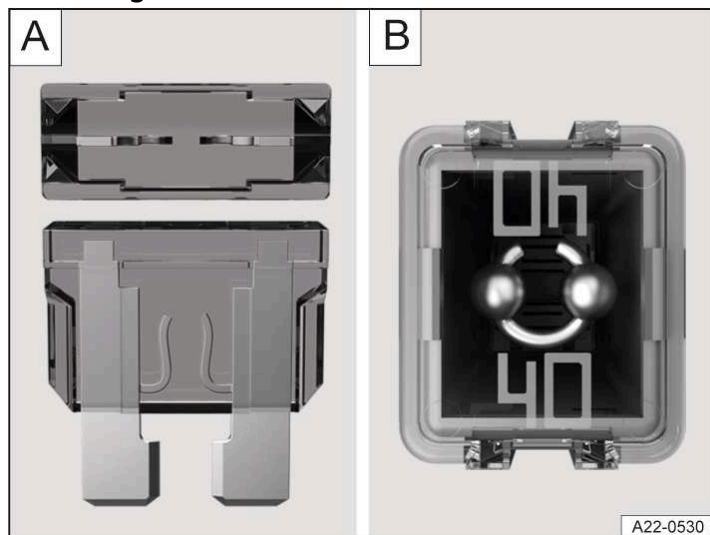

Fig. 1 Blown fuse (illustration).
- If a flat blade fuse (ATO®, MINI®) has blown, this can be recognised from the top and side through the transparent housing due to the melted metal strip → Fig. 1 [A].
- If a cartridge fuse (JCASE®) has blown, this can be recognised from the top through the transparent housing due to the melted metal strip → Fig. 1 [B].